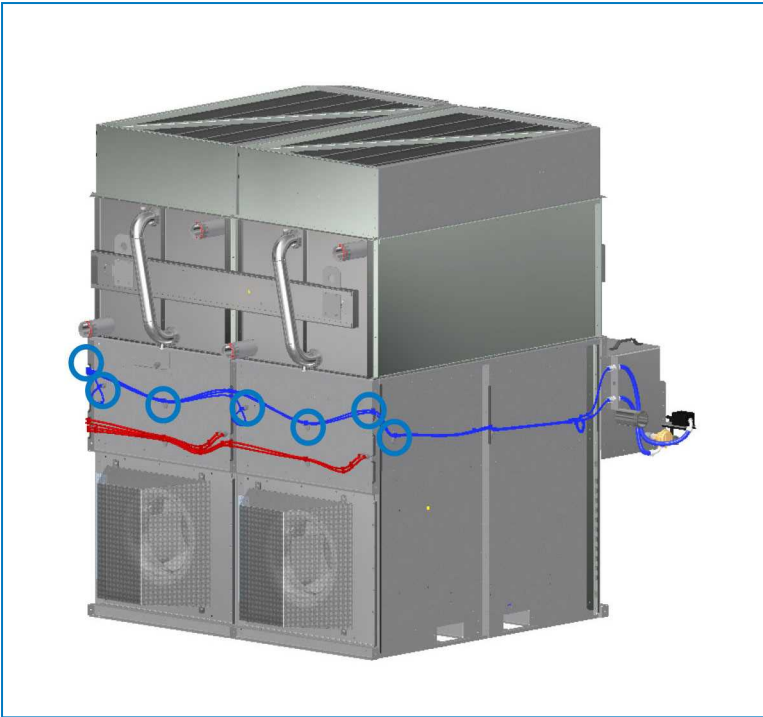

Fig. 15 Fan communication wire and component wire routing
3. Pull the fan communication wire through the first notch and the wire mount alongside with the component wire. Secure the wire with zip ties. The conductivity sensor, drain valve and fan communication wire run together to the control panel. See figure 15.